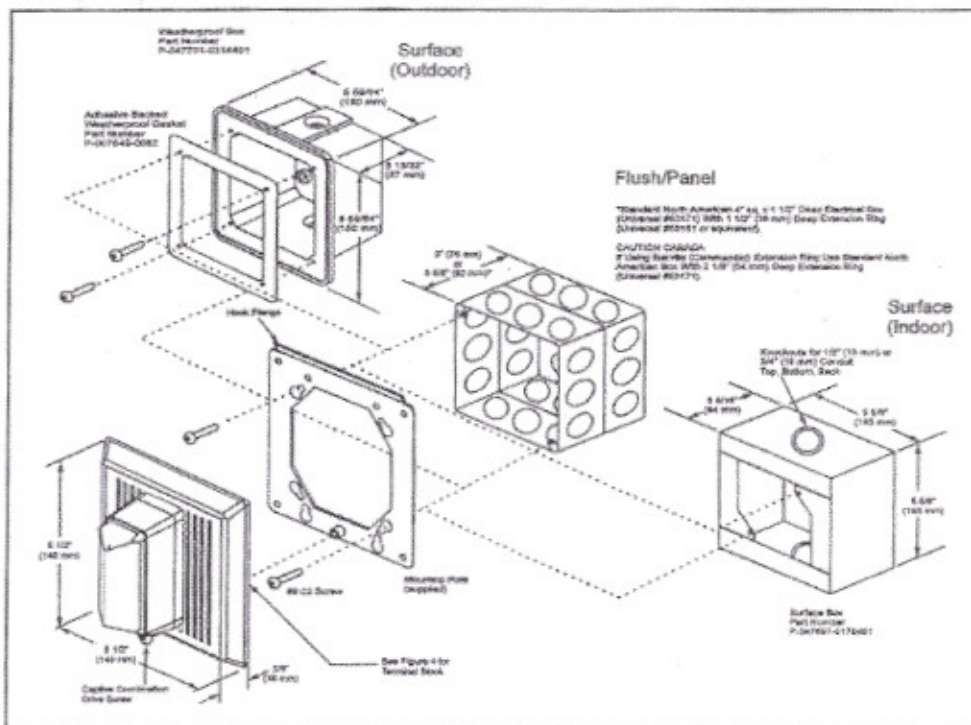

Figure 1. Detailed View
See Table 2 and Figures 1, 5 and 6 for specifications.
1. Select a mounting method as detailed in Figure 1 and install the electrical box using suitable hardware.
- a. For outdoor applications, install the weatherproof box using four #10 x 1/4" (32 mm) screws and caplugs provided in the enclosed parts bag. Carefully adhere the gasket, part number P-007549-0082 (provided in the enclosed parts bag) to the box as shown in Figure 1.
NOTE: Be sure hook flange is facing outward as shown in Figure 1.
6. Mount the horn/strobe assembly on the mounting plate (Figure 1).